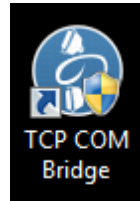

Figure 1: The program's shortcut on the Windows Vista desktop
2. Our program's shortcut will be placed on the desktop (Figure 1);